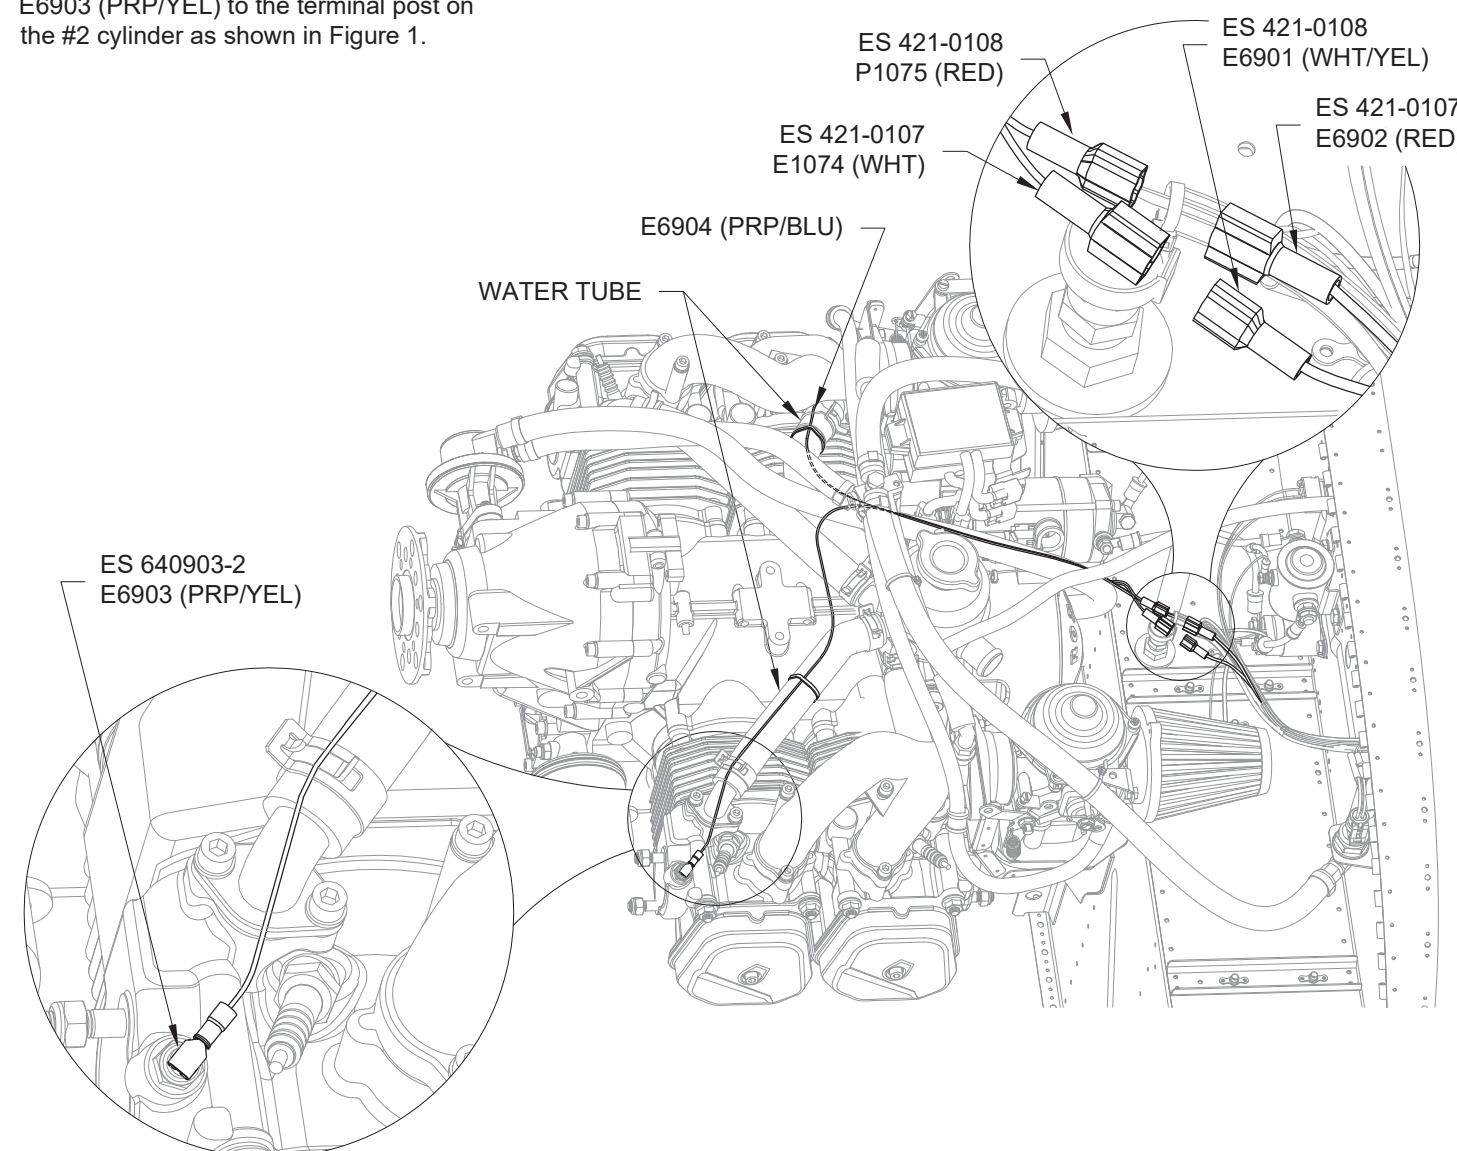

FIGURE 1: OIL PRESSURE CONNECTIONS & LEFT SIDE CHT WIRE
Step 5: Attach the spade connector on the E6903 (PRP/YEL) to the terminal post on the #2 cylinder as shown in Figure 1.